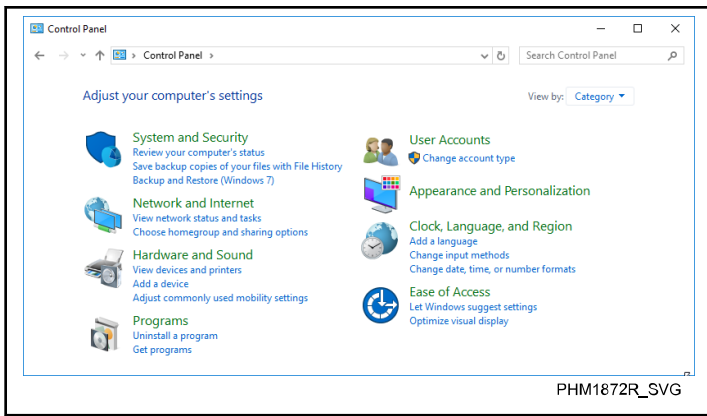

Figure 39
1. Under the "Start" menu, click **Control Panel**. The "Control Panel" window appears. Refer to *Figure 39*.